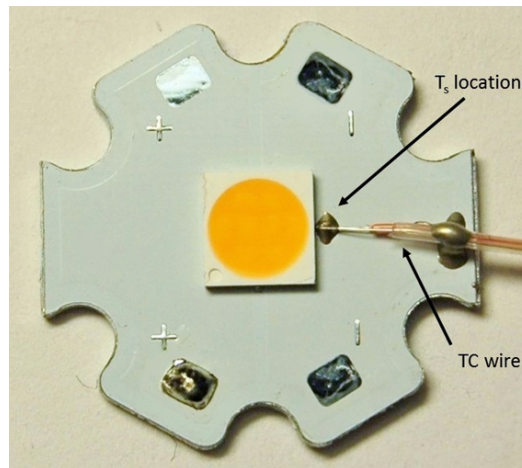

Figure 4. Actual placement of TC wire secured with thermal conductive epoxy. The thermal epoxy volume should be kept to minimum as shown.
The recommended location of the sensor pad is right next to the cathode pad of LUXEON 5050 emitter, as shown in Figure 4. To ensure accurate readings, the thermocouple (TC) tip must make close contact to the copper of the PCB onto which the LUXEON emitter thermal pad is soldered, i.e. any solder mask or other masking layer must be first removed before mounting the thermocouple onto the PCB. The tip of the TC wire should be placed as close as possible to the LUXEON emitter package on the exposed copper layer of the thermal pad. The thermal resistance  $R\theta_{j-s}$  between the sensor pad and the LUXEON emitter junction was experimentally determined based on the MCPCB with the following construction: 2oz copper, 0.1mm dielectric with thermal conductivity of 3 W/(m.K). The junction temperature can then be calculated as follows: